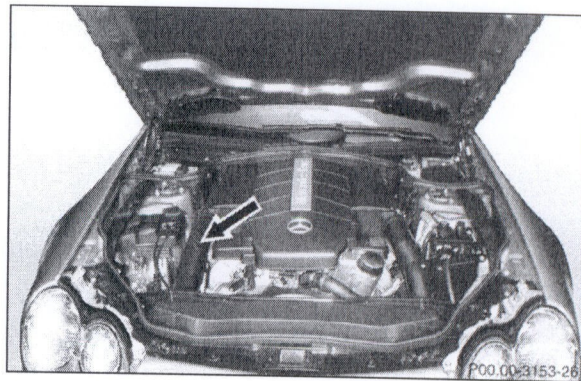

Figure 2
2. Remove intake duct (arrow, Figure 2) on right side of engine.